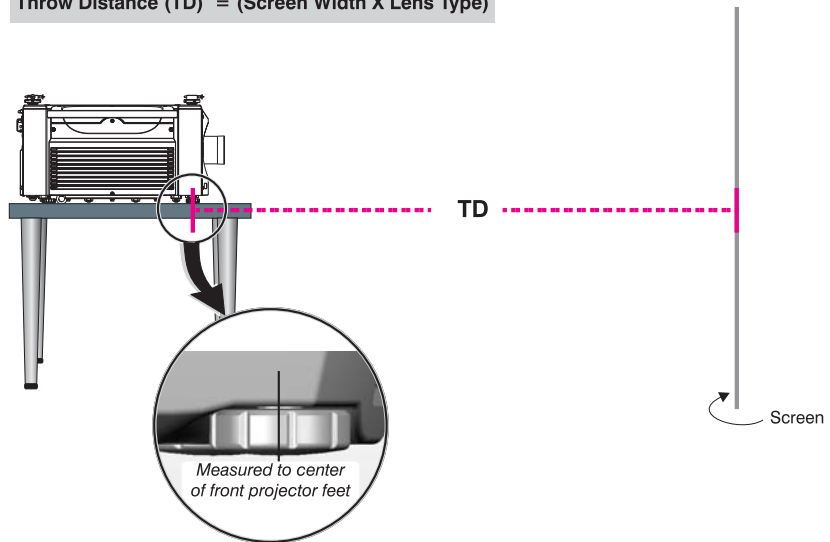

Figure 2.19. Estimating Throw Distance
For any installation, an accurate throw distance (TD) must be determined in order for the image to be of the right size for your screen—the farther the projector is from the screen, the larger the image. Throw distance is the distance between the projector's front feet axes and the screen (Figure 2.19), and is roughly equal to the horizontal width of the screen multiplied by the throw ratio of the installed lens. Once you know your screen size and lens, you can estimate throw distance needed. For example:
- Throw Distance (TD) = **10** feet x **0.7** = **7** feet